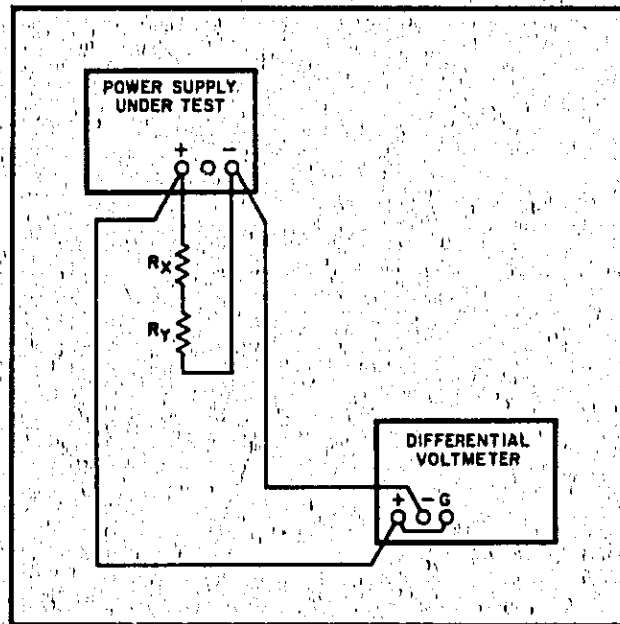

Figure 5-5. Load Regulation, Test Setup
- a. Connect test setup as shown in Figure 5-5.
- c. Connect test setup shown in Figure 5-5.
a. Connect test setup shown in Figure 5-5.
- a. Connect test setup shown in Figure 5-5.